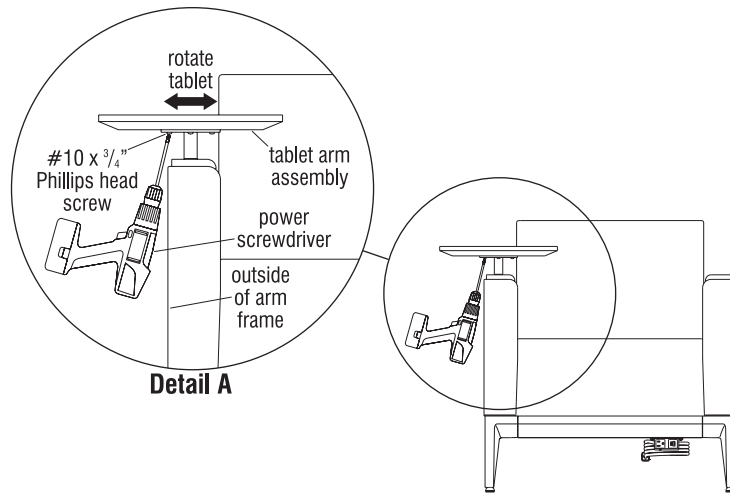

Figure 1
1. To remove the tablet board, begin by rotating the tablet assembly until two #10 x 3/4" Phillips head screws are aligned with the outside edge of the arm frame. The power screwdriver may have to be tipped at a slight angle to be able to reach the screw head and keep the rotating drill chuck from rubbing on the arm (Figure 1 & Detail A).